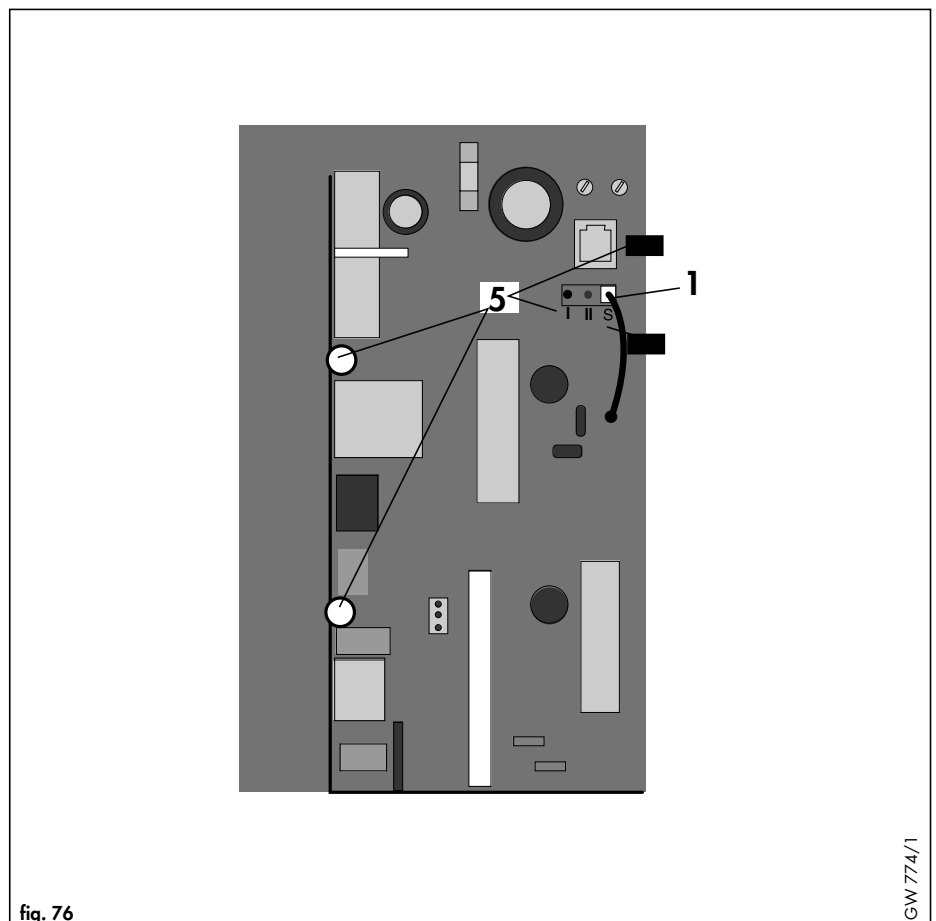

fig. 76
- Push four spring retaining clips (5, fig. 76) out, and gently lift control board out of control box.